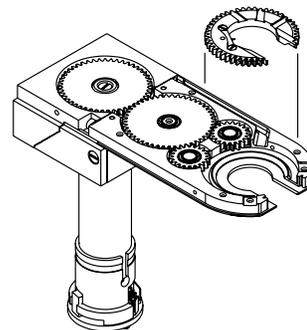

Figure 49 Removing the Rotor
8. Remove the rotor. See Figure 49.